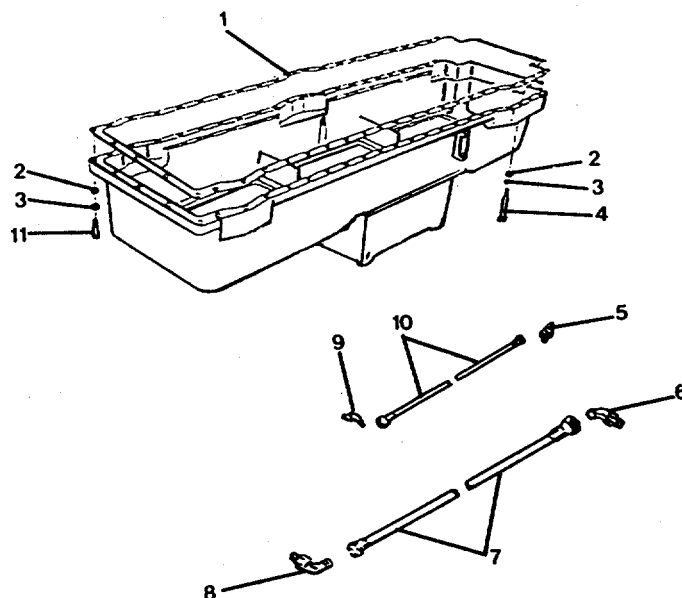

FIGURE 2-60. *Oil Pan and Adapter Group.*
- a. Remove two pipe to tube elbows (5 and 9, FIG. 2-60). Remove nonmetallic hose (10) from oil pan. Remove electrical connections.
- b. Remove fuel line elbow (6) and male adapter elbow (8). Remove metallic hose (7) from oil pan.
- d. Install male adapter elbow (8, FIG. 2-60), metallic hose (7), and fuel line elbow (6).
- e. Install pipe to tube elbow (9), nonmetallic hose (10), and pipe to tube elbow (5). Connect electrical connections.